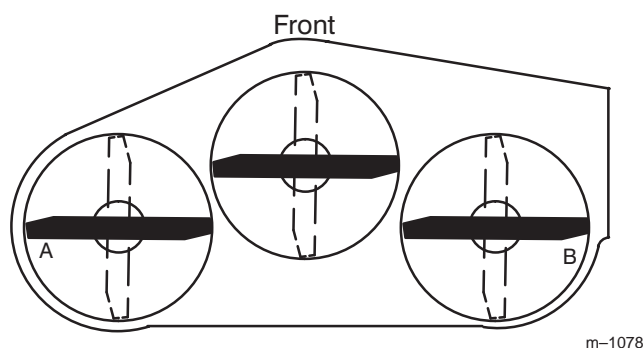
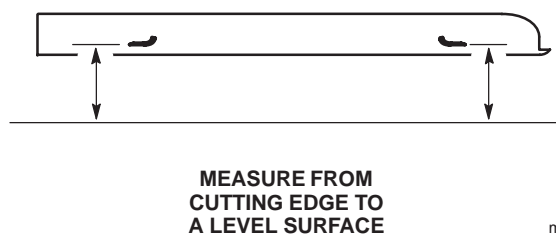

Figure 59
Figure 60
- Position the blades side-to-side (Fig. 59). Measure at **A** and **B** locations (Fig. 59) from a level surface to the cutting edge of blade tips (Fig. 60).